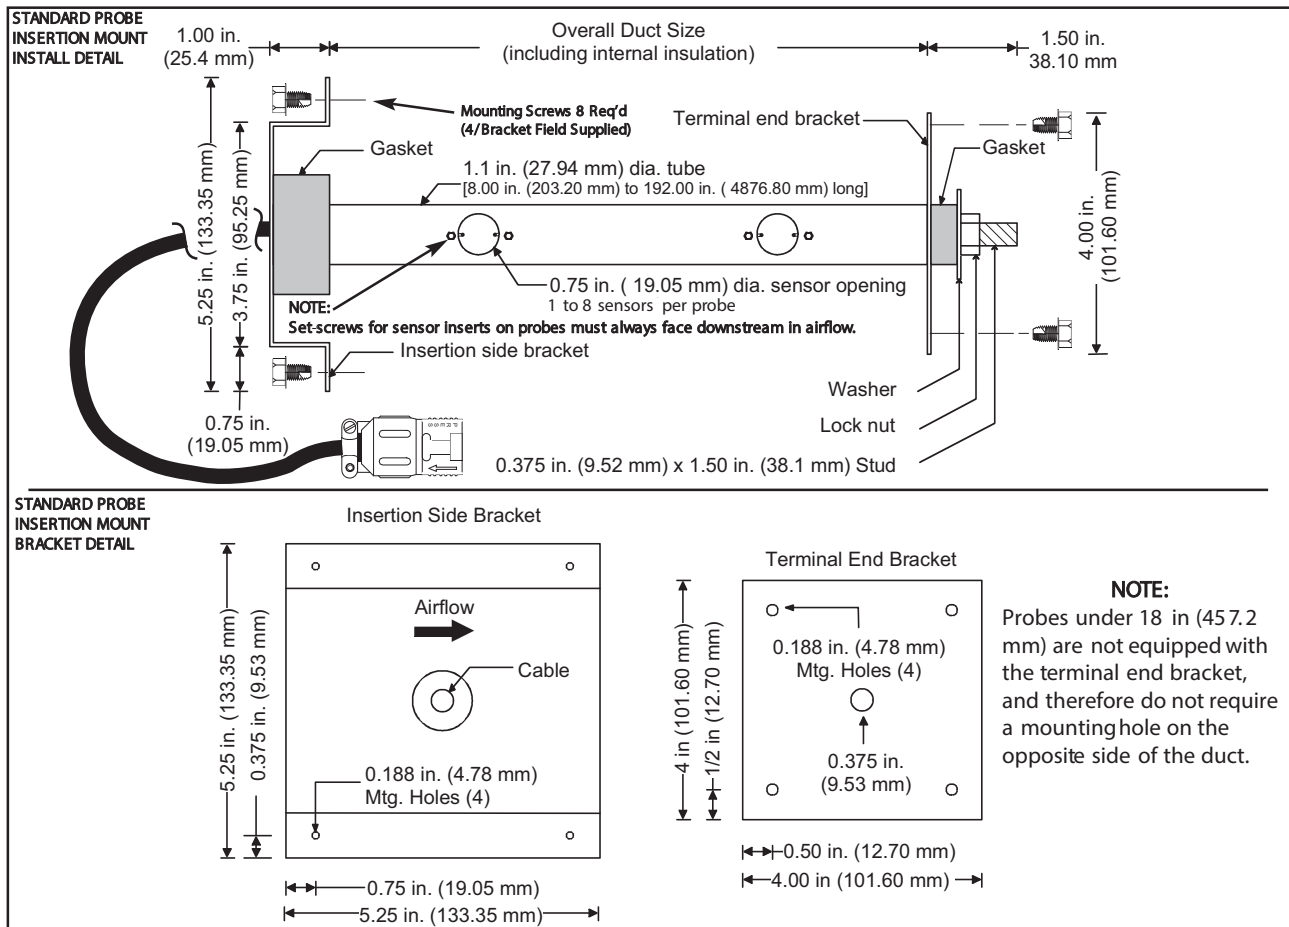
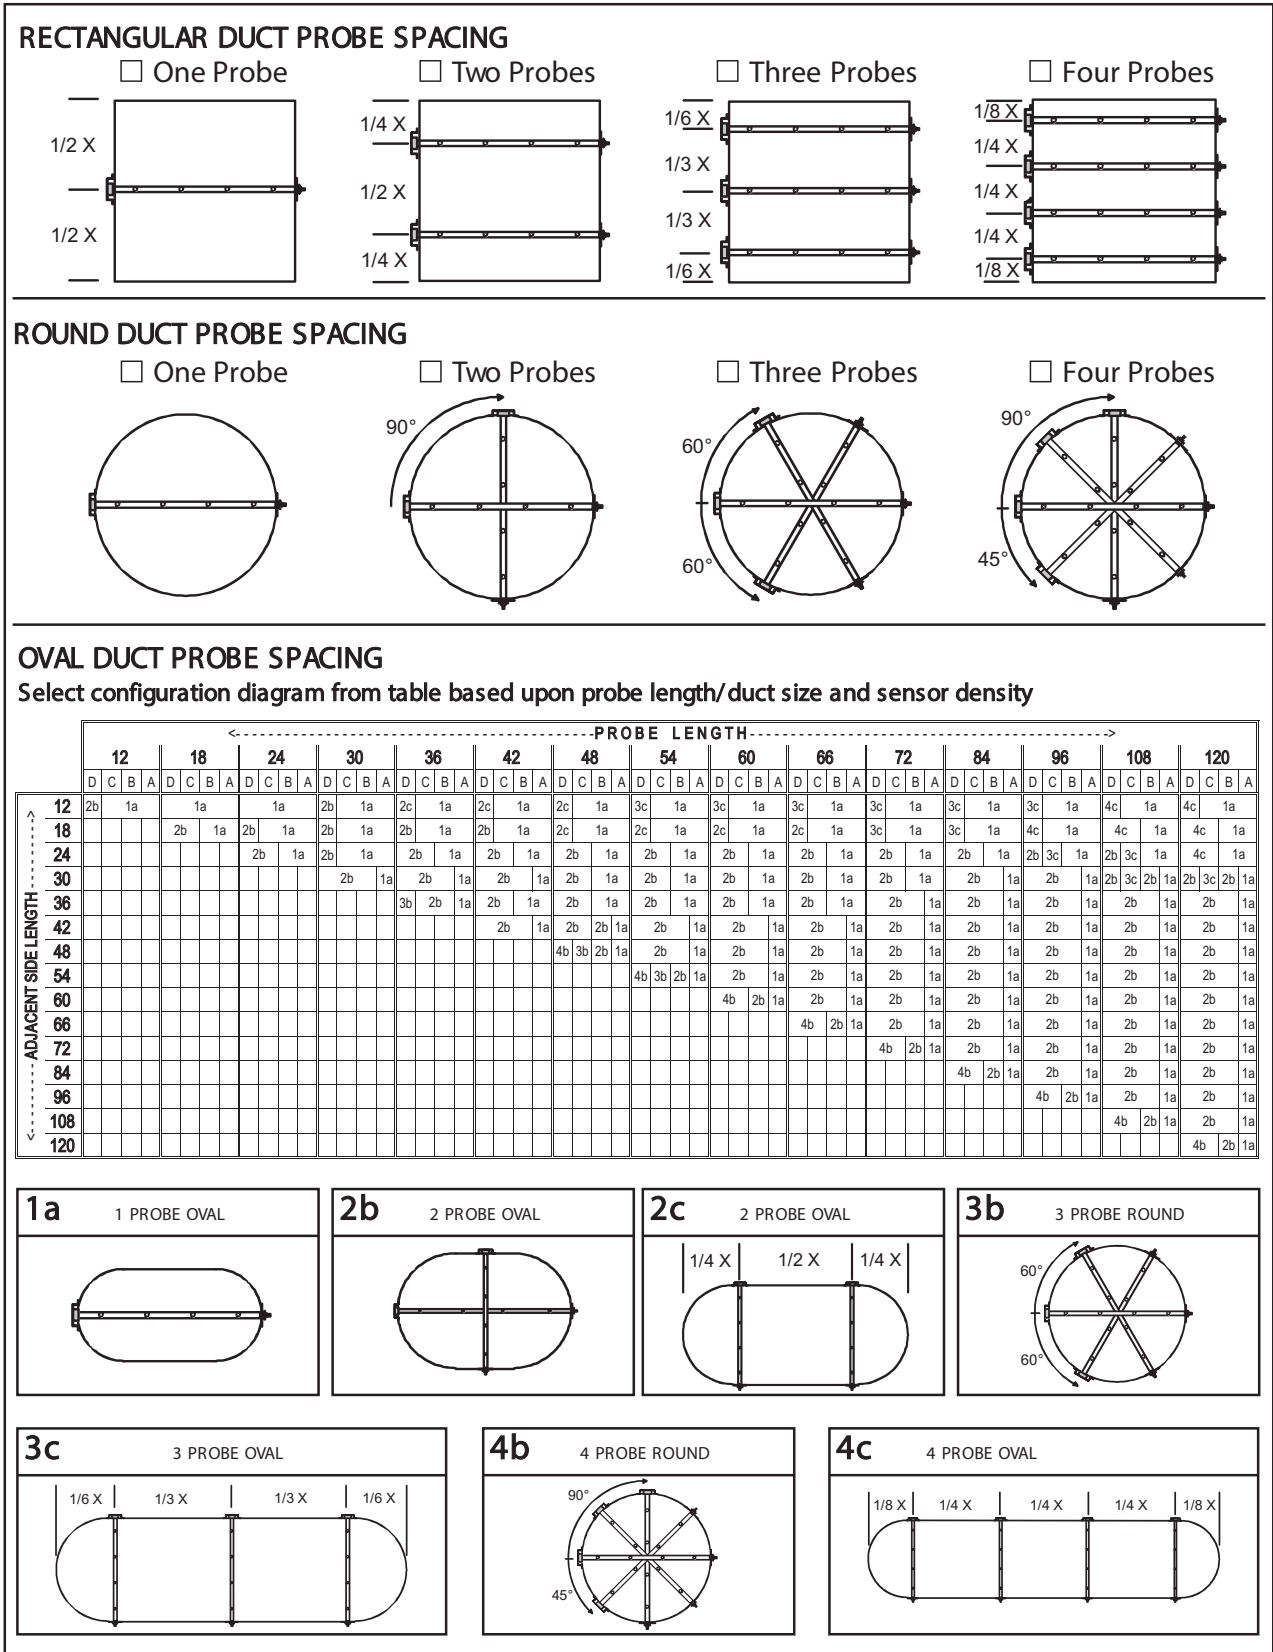

Figure 2. Standard Insertion Mount Probe Mechanical Detail
Figure 3. Insertion Mount Probe Spacing/Configuration
Ensure that adequate installation/service clearance exists at the installation site to permit installation of the probe into the duct/plenum, and that the cable length for the probes is sufficient to reach the planned transmitter installation. Refer to the mechanical details of Figure 2.
On applications where multiple probes are to be installed at a single measurement location, install probes in accordance with Figure 3 (Insertion Mount Probe Spacing/Configuration). In addition, when traverse data is desired (Gold Series GP1 probes only), place the lowest numbered probe at the top of the duct for horizontal mounting. For vertical mounting, place the lowest numbered probe on the left side of duct when viewed from the upstream side of the mounting location, with cables exiting on the higher side to prevent any potential moisture from accumulating on the heated sensors.
Figure 2 provides Standard insertion mount probe installation details. Standard probes 18 in (457.2 mm) and longer include a terminal stud (and, for rectangular ducts, a terminal bracket plate) for additional support at the far end of the probe. On these longer probes, a terminal stud mounting hole is required on the other side of the duct (opposite the insertion side). Shorter standard probes (under 18 in / 457.2 mm) do not require a terminal bracket or end stud hole, and are fabricated 0.25 in (6.3 mm) less than the overall duct size. Install probes as follows. Convenient check boxes are included at each step.
1.  Each probe package is factory labeled for the specific location and duct size for which it is designed. Orders for locations requiring multiple probes at a specific location are typically banded and packaged together. Determine the specific duct location for the probe(s) as indicated on the engineer's plans showing where the airflow measuring station is to be located. Refer to Figure 3 for probe spacing and orientation.
3.  The first dimension of the probe size indicates the length of the probe. The second dimension indicates the specific duct insertion side dimension 'X'. Refer to Figure 2 and verify that the probe is the correct size for the application duct size. Mark a point at the center of the insertion side of the duct at 'X'. Draw a line on the insertion side of the duct at this point that is perpendicular to the edge of the duct. This line will be used to locate the position of the hole(s) to be drilled for probe insertion. The number of probes for the specific measurement site determines the probe installation location and orientation as shown in Figure 3.
4.  Using the applicable Rectangular Insertion Mount Probe Spacing/Configuration detail of Figure 3, locate and mark the location(s) on the insertion side of the duct (where the probe(s) will be inserted) at the line drawn in step 3.
6.  Mark and draw a line around the circumference of the duct at the probe(s) insertion point(s). The number of probes for the specific measurement site determines the probe installation locations and orientation as shown in Figure 3. Applications with multiple probes must be staggered 1.5 - 2 in (38.1 to 50.8 mm) from each other as shown in Round Duct Probe Spacing detail of Figure 4 to prevent probes from intersecting at the center of the duct.
7.  Using the applicable Round Duct Probe Spacing detail of Figure 3, locate and mark the probe insertion location(s) on the circumference line drawn in step 6 where each of the probe(s) will be inserted.
9.  Mark and draw a line around the circumference of the duct at the probe(s) insertion point(s). For oval duct applications, orientation is determined by duct size application as shown in the Oval Duct Probe Spacing table and detail application illustrations of Figure 3. Configuration '2b', '3b' and '4b' probes must be staggered 1.5 to 2 in (38.1 to 50.8 mm) from each other to prevent probes from hitting one another (intersecting) at the center of the duct.
10.  Using the Oval Duct Probe Spacing table and detail applications shown in Figure 3, locate and mark the probe installation location(s) on the circumference line drawn in step 9 where each of the probe(s) will be inserted.